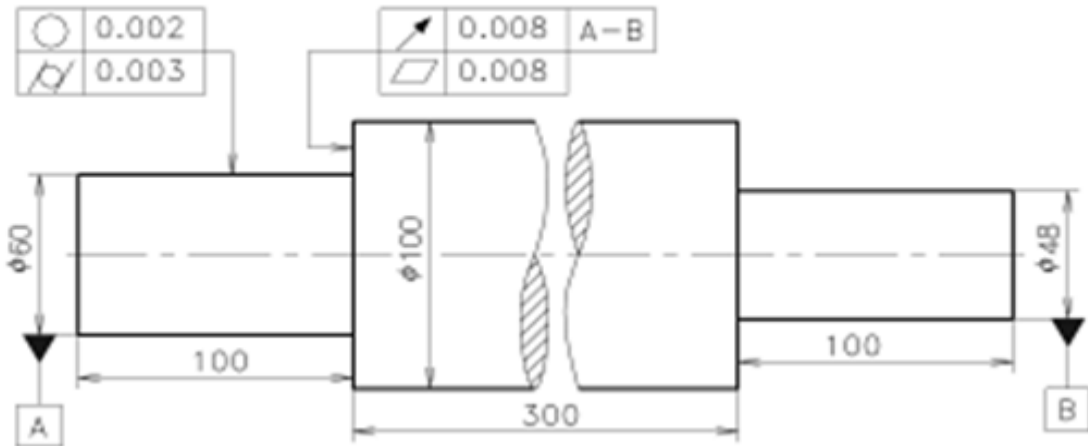

Figure 6: Shaft with bearing surface.
6. Describe the geometric tolerances for the figure 6 below.